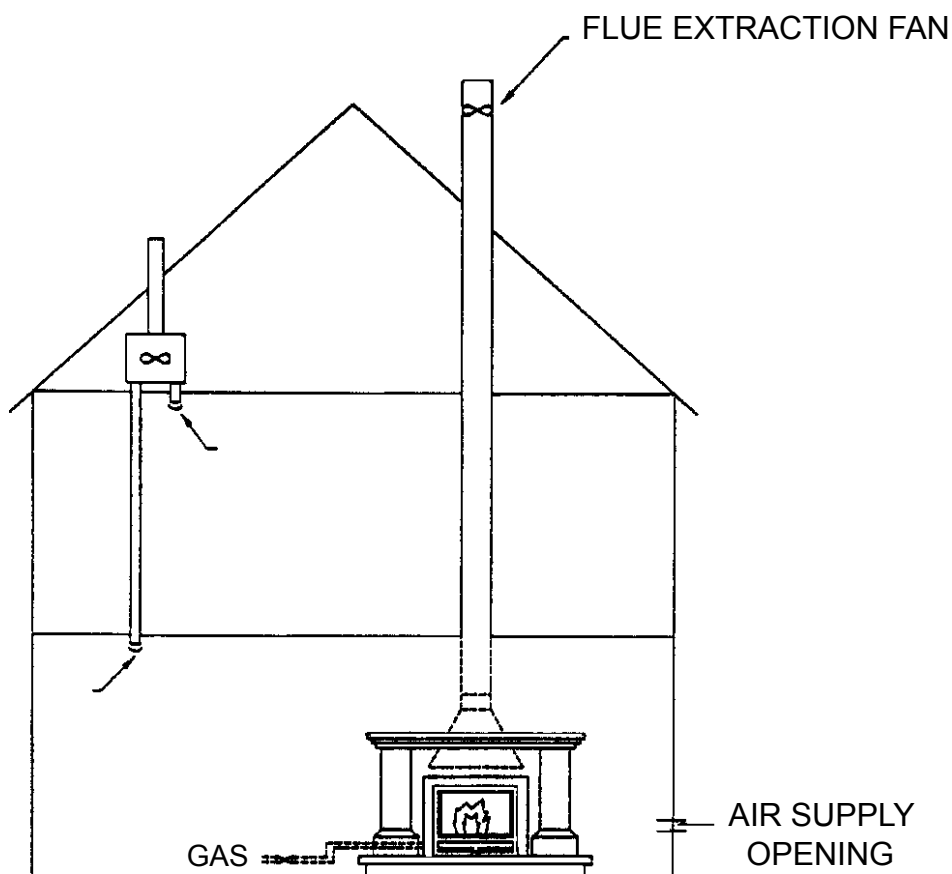

Figure 7: Mechanically ventilated house
- 2 MECHANICALLY VENTILATED HOUSE (see Figure 7)